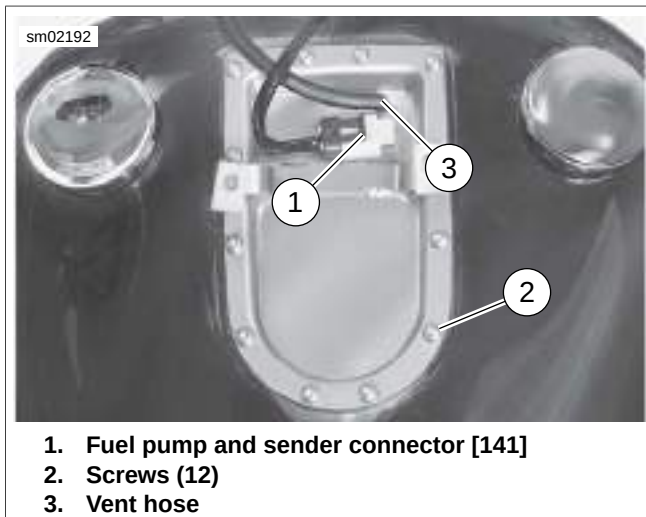

Figure 7-54. Top Plate Screws (Typical)
9. See Figure 7-54. Connect fuel pump/sending unit connector [141].